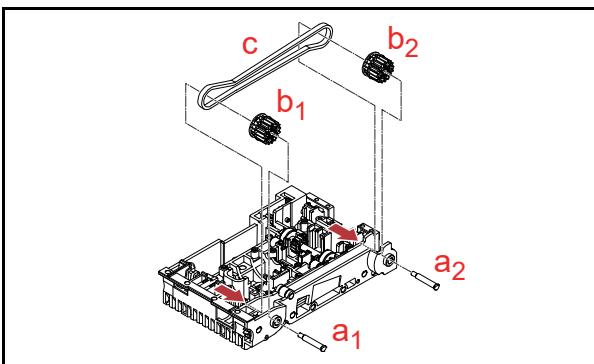

**Figure 4-70** TR Worm Gear (Twin) Removal
1. Remove the Gear Assy. (Figure 4-70 **a**).
2. Remove the two (2) Bearings (Figure 4-70 **b**1 & **b**2) from the TR Worm Gear (Twin) (Figure 4-70 **c**).